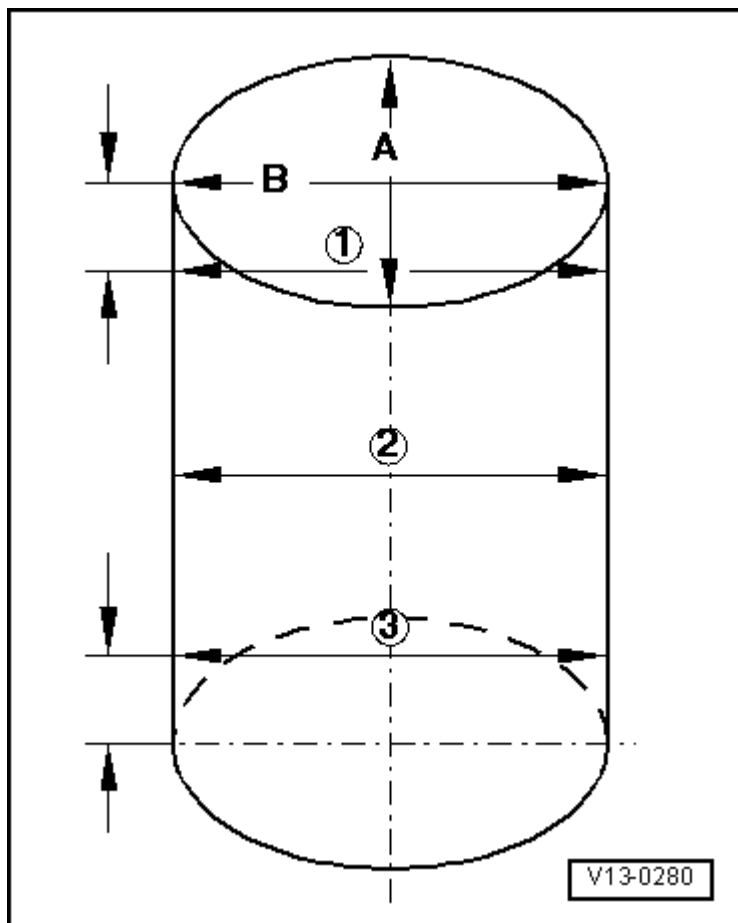

Fig. 13: Identifying Check Of Cylinder Bores
- Checking the cylinder bore. Refer to **Fig. 13**.